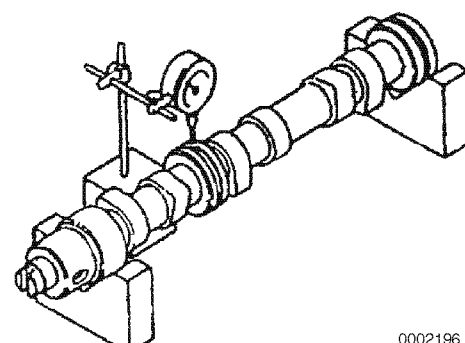

Figure 6-76
1. Use V-blocks and a dial indicator to check camshaft bend (Figure 6-76). Place the indicator on the center bearing journal.